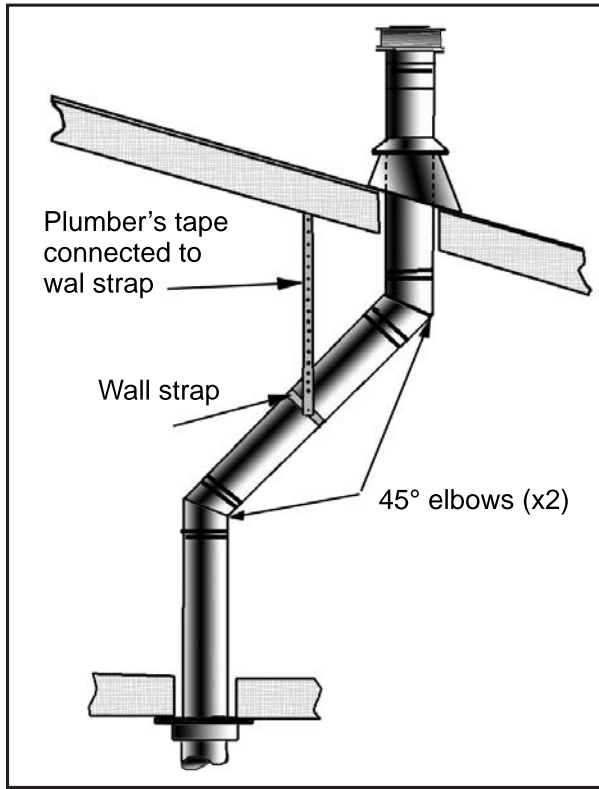
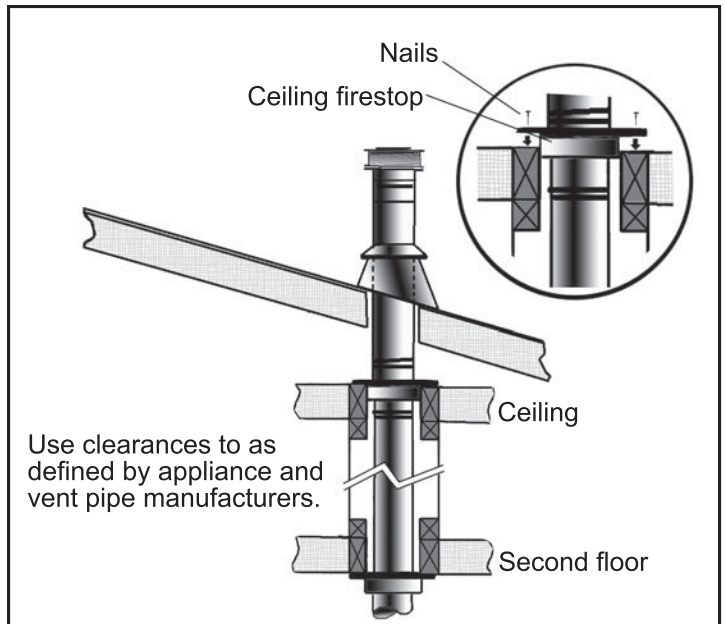

Figure 39: Use of wall straps
Figure 40: Multi-story vent pipe installation
- (1) If an offset is necessary in the attic to avoid obstructions, it is important to support the vent pipe every 3 feet (914 mm), to avoid excessive stress on the elbows, and possible separation. Wall straps are available for this purpose (see Figure 39).
- (2) When ever possible, use 45° degree elbows instead of 90° degree elbows. The 45° degree elbow offers less restriction to the flow of flue gases and intake air.
- (3) For multi story installations; a ceiling firestop is required at the second floor, and any subsequent floors (see Figure 40). The opening should be framed to 10" (254 mm) x 10" (254 mm) inside dimensions, in the same manner as shown on page 24.
- (4) Any occupied areas above the first floor, including closets and storage spaces, which the vertical vent passes through, must be enclosed. The enclosure may be framed and sheet-rocked with standard building materials. However consult the appliance manufactures installation instructions for the minimum allowable clearance between the outside of the vent pipe, and the combustible surfaces of the enclosure. Do not fill any required air spaces with insulation.